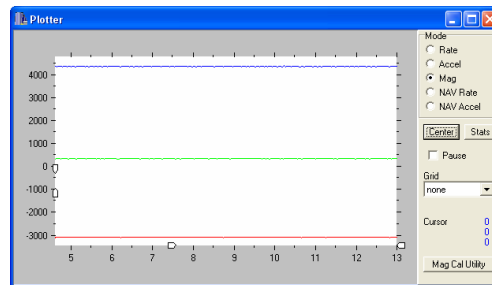
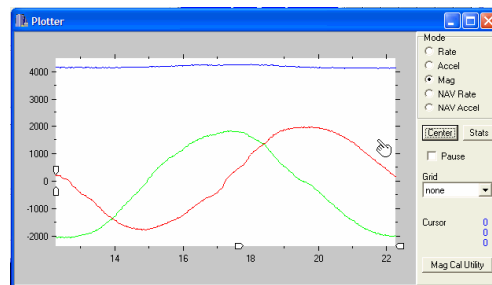

Figure 5. Plotter Utility
Figure 6. Magnetometer readings of 360°.
2. **Select the "Plot" option.** This will open the Plotter (Plot) utility (Figure 5).
3. **Select the "Mag" radio button and the Press the "Center" button.** This will display all three (3) axis of the magnetometer.
4. **Drive the course, starting forward and begin a full circular turn.** The Plotter should look similar to Figure 6.
6. **Left-click and hold the slider tabs at the bottom of the plotter screen while dragging the slider toward the left side of the pane.** This will bring the full turn on to the plotter screen. The screen should look similar to Figure 6.